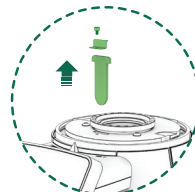

Fig. 11
12.4.1. After the point 12.3.7, use a #3 Hex Allen key to untighten the screw that holds the curtain, and pull up to release (Fig. 11).